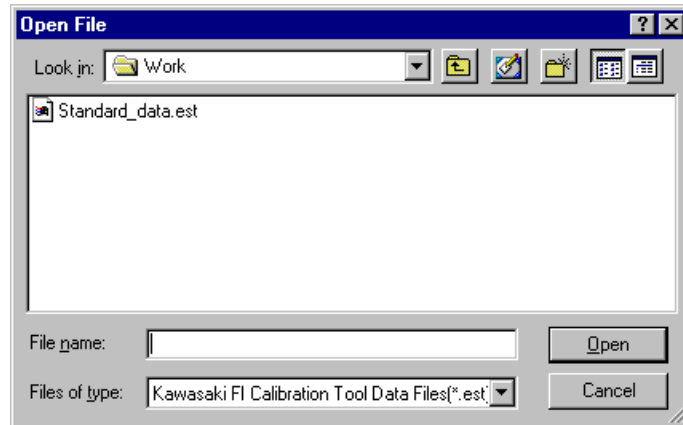

Fig. 17 Open Dialog
(4) The Open dialog shown in Fig. 17 appears.